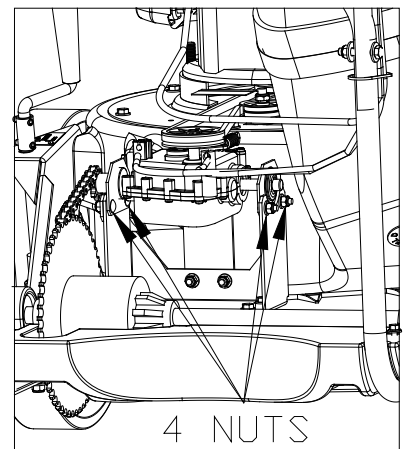

Fig. 20
10. Loosen 4 nuts holding the bearing bracket (see Fig. 20, previous page) slide it very slightly forward to tighten the chain or slide backward to loosen. Tighten 4 nuts back then check the chain deflection. Repeat this step if necessary.